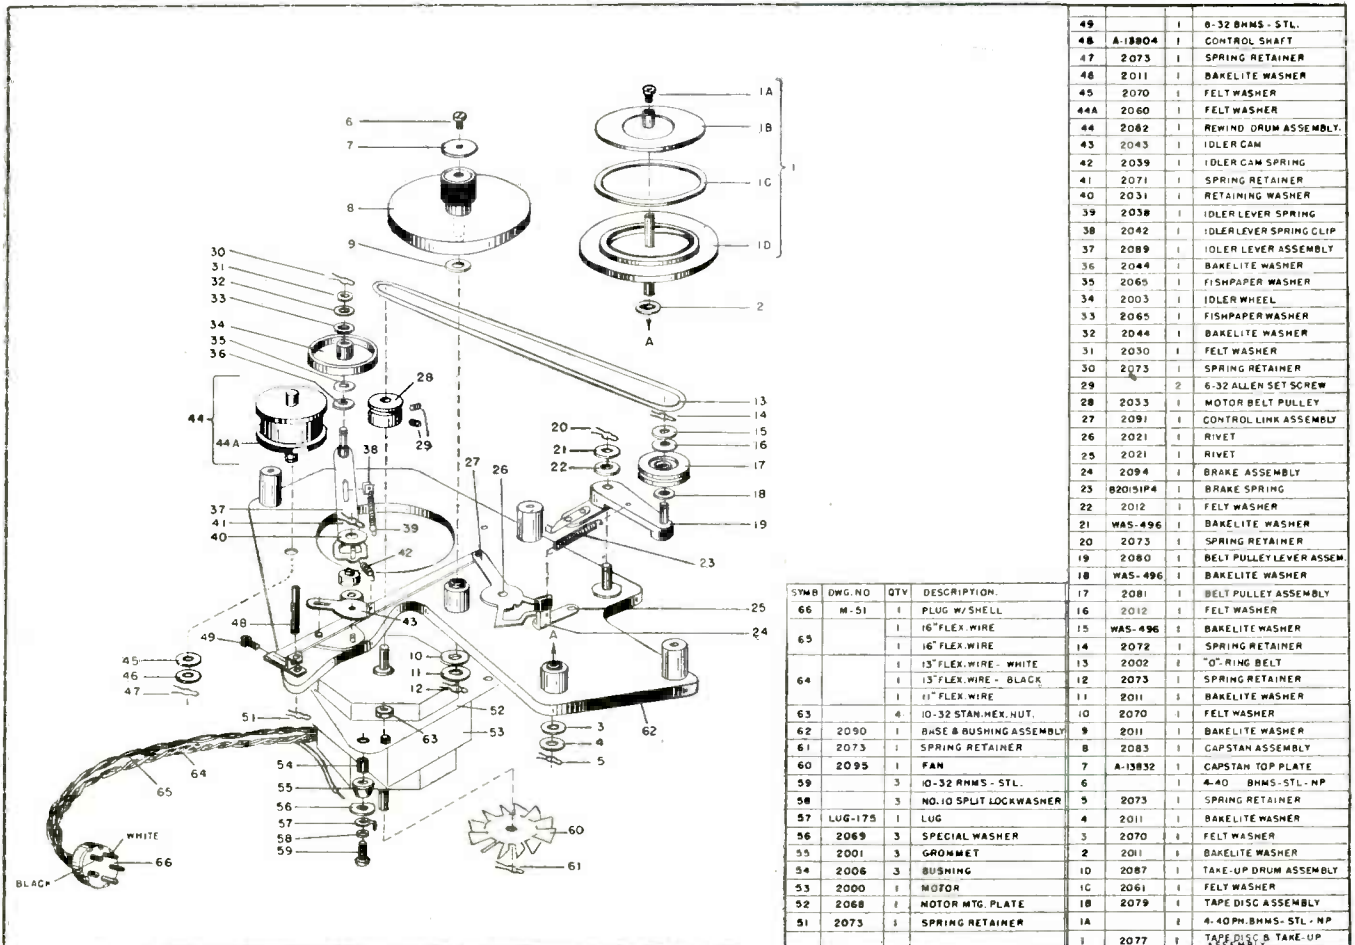
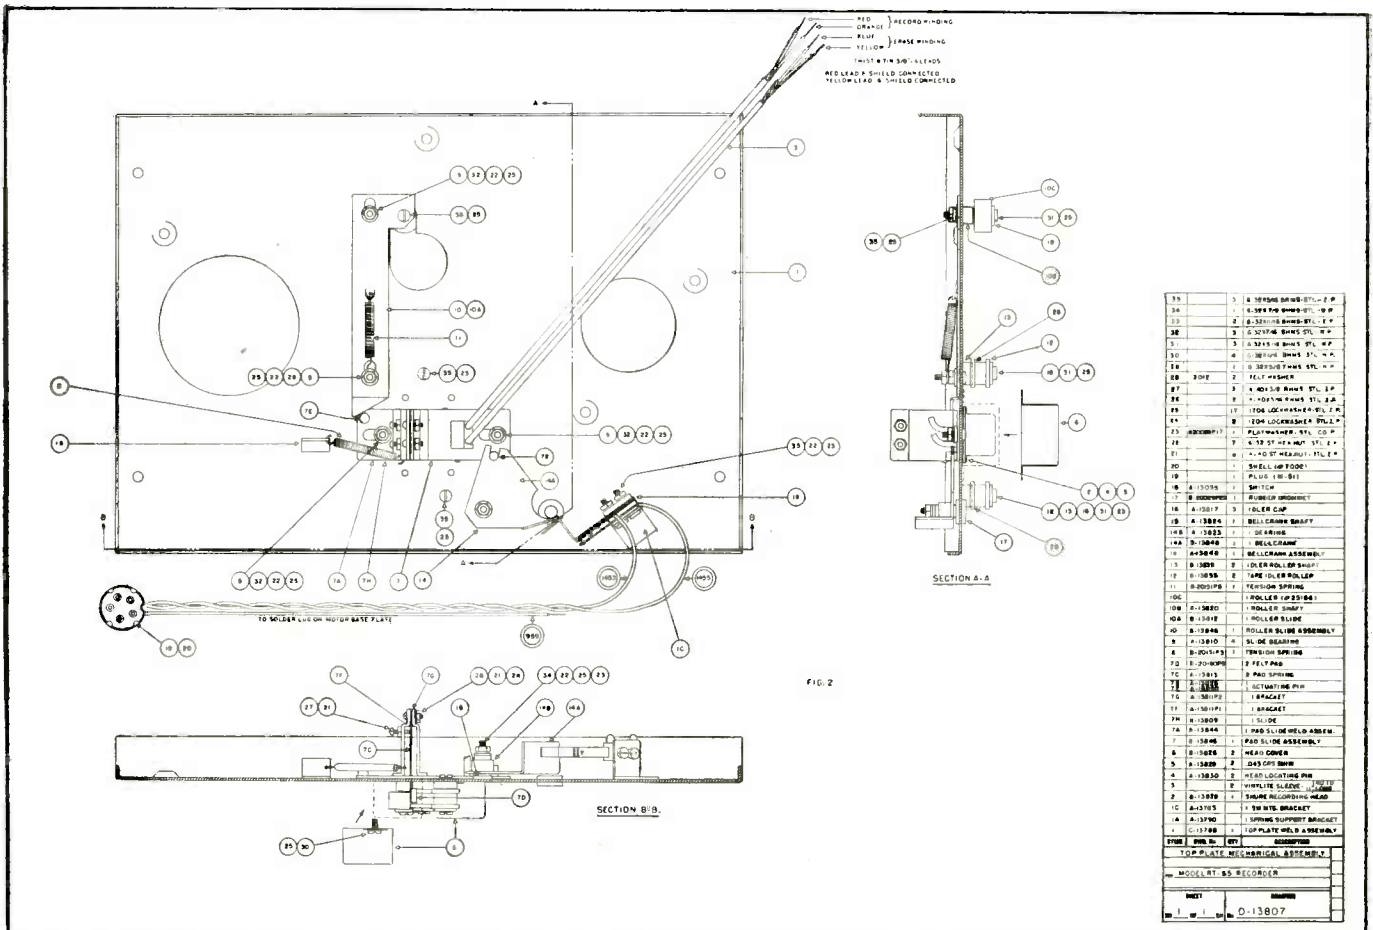

Fig. 1. Exploded view of Bell Model RT-65 tape recorder.
Fig. 2. Leverage mechanism details of Bell Model RT-65 tape recorder.
Before proceeding with any service work it is wise to study the exploded view of all mechanical parts identified by tabulation in Fig. 1 as well as the other leverage mechanism detailed in Fig. 2. A rapid acquaintance with the
No sliding or rotating part should stick in any position. If burred or binding, correction should be effected deftly and where dirt causes sticking it should be removed by either a rag or pipe cleaner sparingly dipped into carbon tetrachloride. With reference to Fig. 2, the bell crank (14), and the roller slide assembly (10) should be exercised to check their free action. Check the bell crank (14) to see that it moves freely and does not strike rubber grommet (17). The above and all wiping surfaces of mechanical linkages should be cleaned of all dirt or other foreign material then lightly lubricated with Sta-put #18 grease. Lubricant should be applied at point of friction only and wiped clear of all other surfaces. Take care that no lubricant contacts the drive belt or slip-page will result. Pipe cleaners are also good for applying grease or oil.